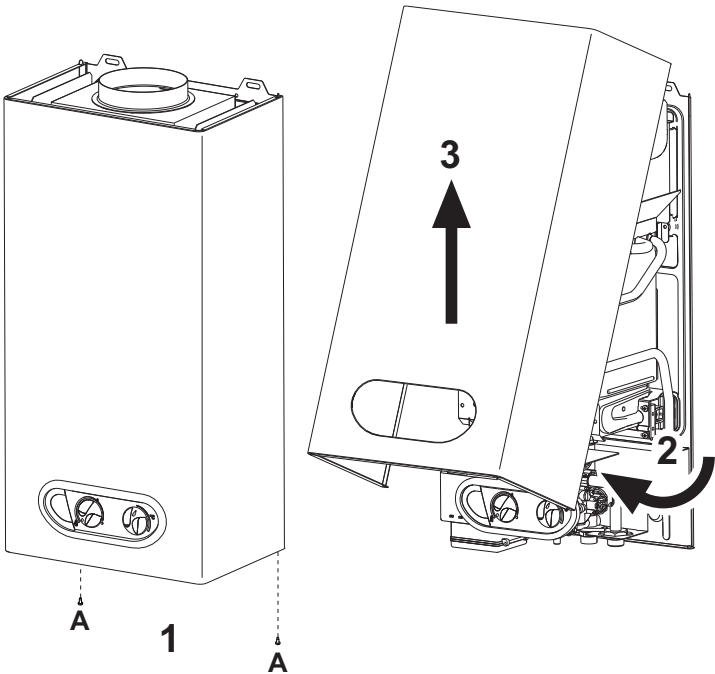

fig. 11 - Opening the casing
- 1. Undo the two screws A (see fig. 11).